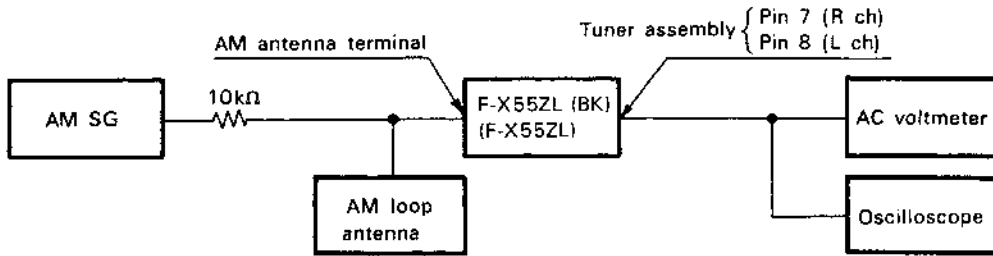

Fig. 12-2 AM adjustments connection diagram
- Connect up as indicated in Fig. 12-2.
- Press the AM (MW) key to set AM (MW) mode.
- Press the AM (LW) key to set AM (LW) mode.